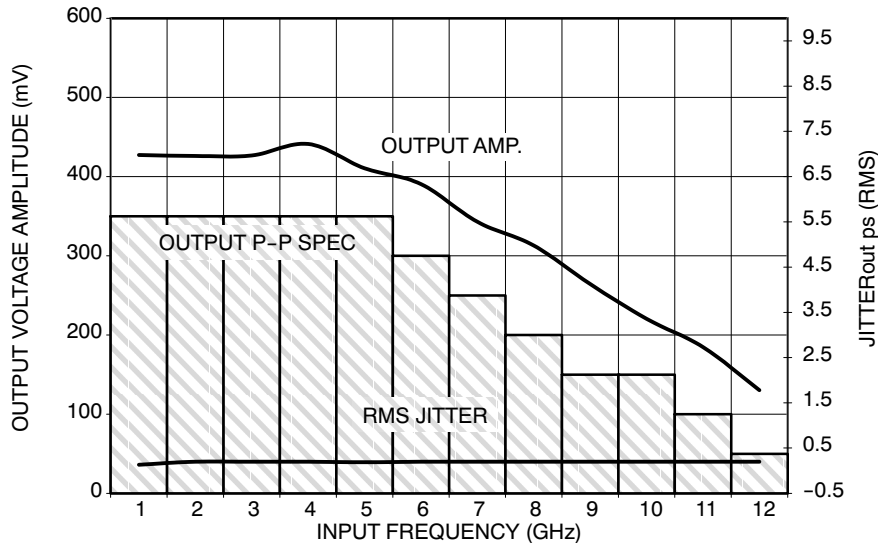

Figure 4. Output Voltage Amplitude (V_{OUTPP}) / RMS Jitter vs. Input Frequency (f_{in}) at Ambient Temperature (Typical)
22. Measured using a 500 mV source, 50% duty cycle clock source. All loading with $50\ \Omega$ to $V_{CC} - 2.0\text{ V}$. For minimum f_{max} value of 10.709 GHz, output amplitude is approximately 200 mV (as shown in Figure 4, where output P-P spec is shown as a minimum/guarantee of around 150 mV). Input edge rates 40 ps (20% - 80%).
27. Measured using a 500 mV source, 50% duty cycle clock source. All loading with $50\ \Omega$ to $V_{CC} - 2.0\text{ V}$. For minimum f_{\max} value of 10.5 GHz, output amplitude is approximately 200 mV (as shown in Figure 4, where output P-P spec is shown as a minimum/guarantee of around 150 mV). Input edge rates 40 ps (20% - 80%).